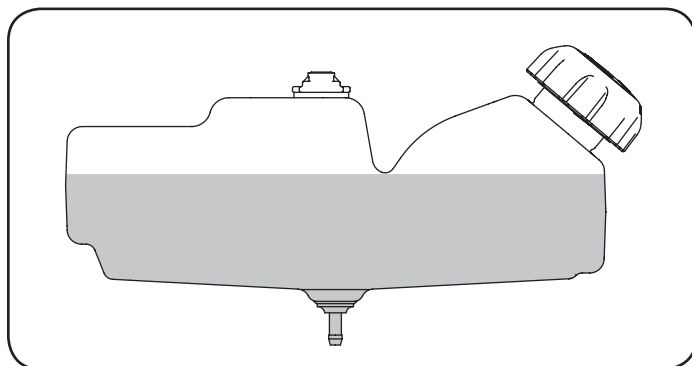

Figure 17
3. Fill tank until fuel reaches 1/2 inch below the bottom of the filler neck to allow space for fuel expansion. Be careful not to overfill. See Figure 17.